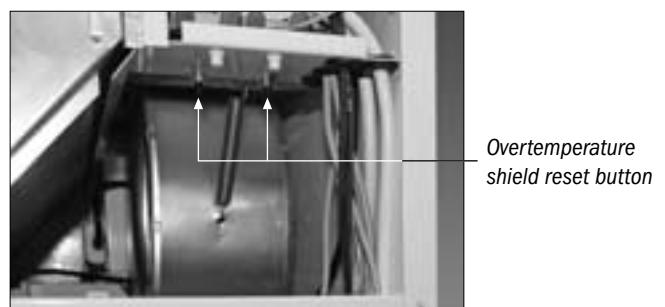

Figure 3.
3. The temperature of the re heater resistor is controlled by an electronic thermal limiter. In the event of a fault, mechanical overtemperature shields switch the re heater resistor off. An overtemperature shield turning off is always a sign of an error, and its cause must be determined. When the heating resistors have cooled down, overheating is reset by pressing the reset button of the overtemperature shield located in the supply air chamber (see Figure 3).